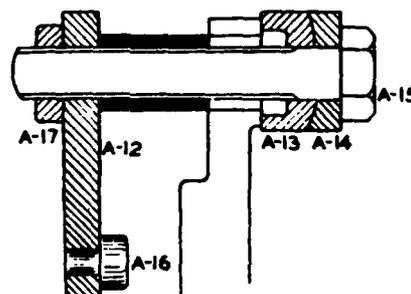

Fig. 21
(8) To insert a new tell tale shaft bearing use the tool assembly as shown in Fig. 21. The parts to this tool assembly are marked A-12 to A-17 inclusive. Make certain that the oil hole in the bearing is lined up for the corresponding oil hole in the casting so that when the bearing is finally in place the hole in the bearing will coincide with the hole in the casting. Force the new bearing into place by tightening the A-17 nut until the .005" gauge (75D) is a slide fit between the A-16 button and the casting.
(9) Insert the tell tale shaft in the new bearing and see if it turns easily. If it binds the bearing should be reamed using the AR-6 reamer. Care should be exercised when reaming this bearing that the reamer is held straight and in line with the center line of the bearing. If the reaming is out of line it will